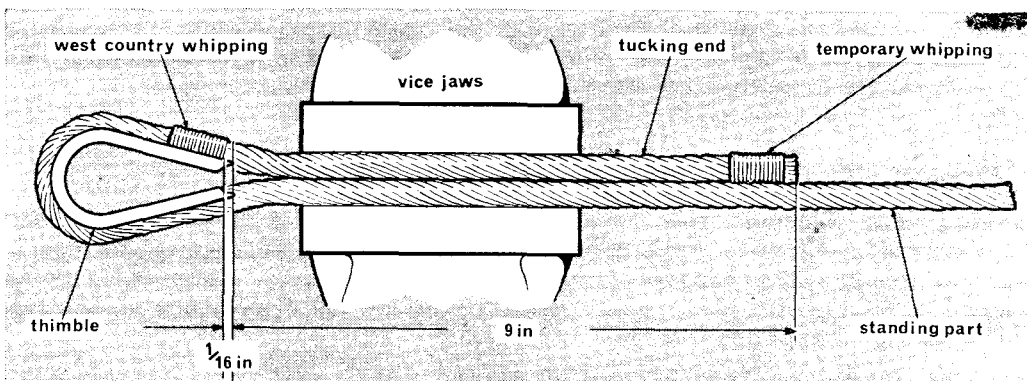

Fig 9.2 Preparation of a Hard Eye (1)
- Make a west country whipping on the rope 9 inches from its end and bend the rope around the thimble so that the end of the whipping nearest the end of the rope is $\frac{1}{16}$ inch from the point of the thimble (Fig 9.2). To hold the thimble in this position, the standing part and the tucking end are held side by side between the jaws of a vice as shown in Fig 9.2.